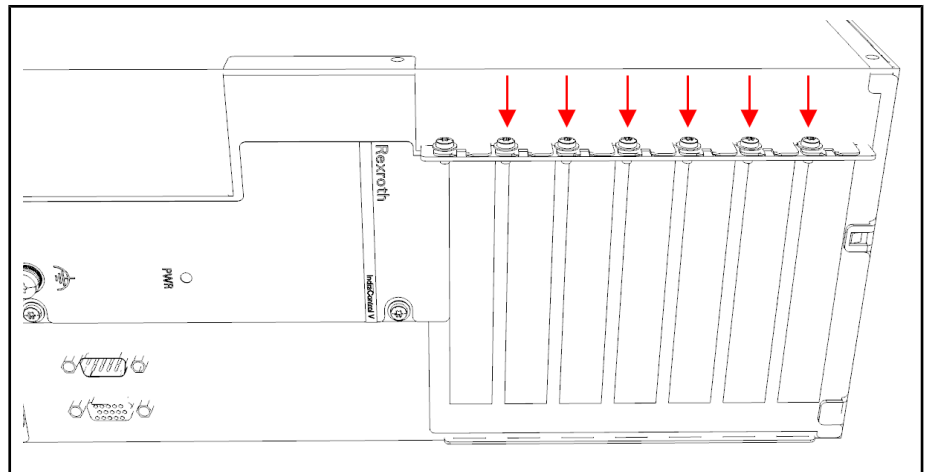

Fig.8-5: Position of the slot plates and the fastening screws
7. Loosen and remove the fastening screw of the corresponding sheet, see fig. 8-5 "Position of the slot plates and the fastening screws" on page 53.